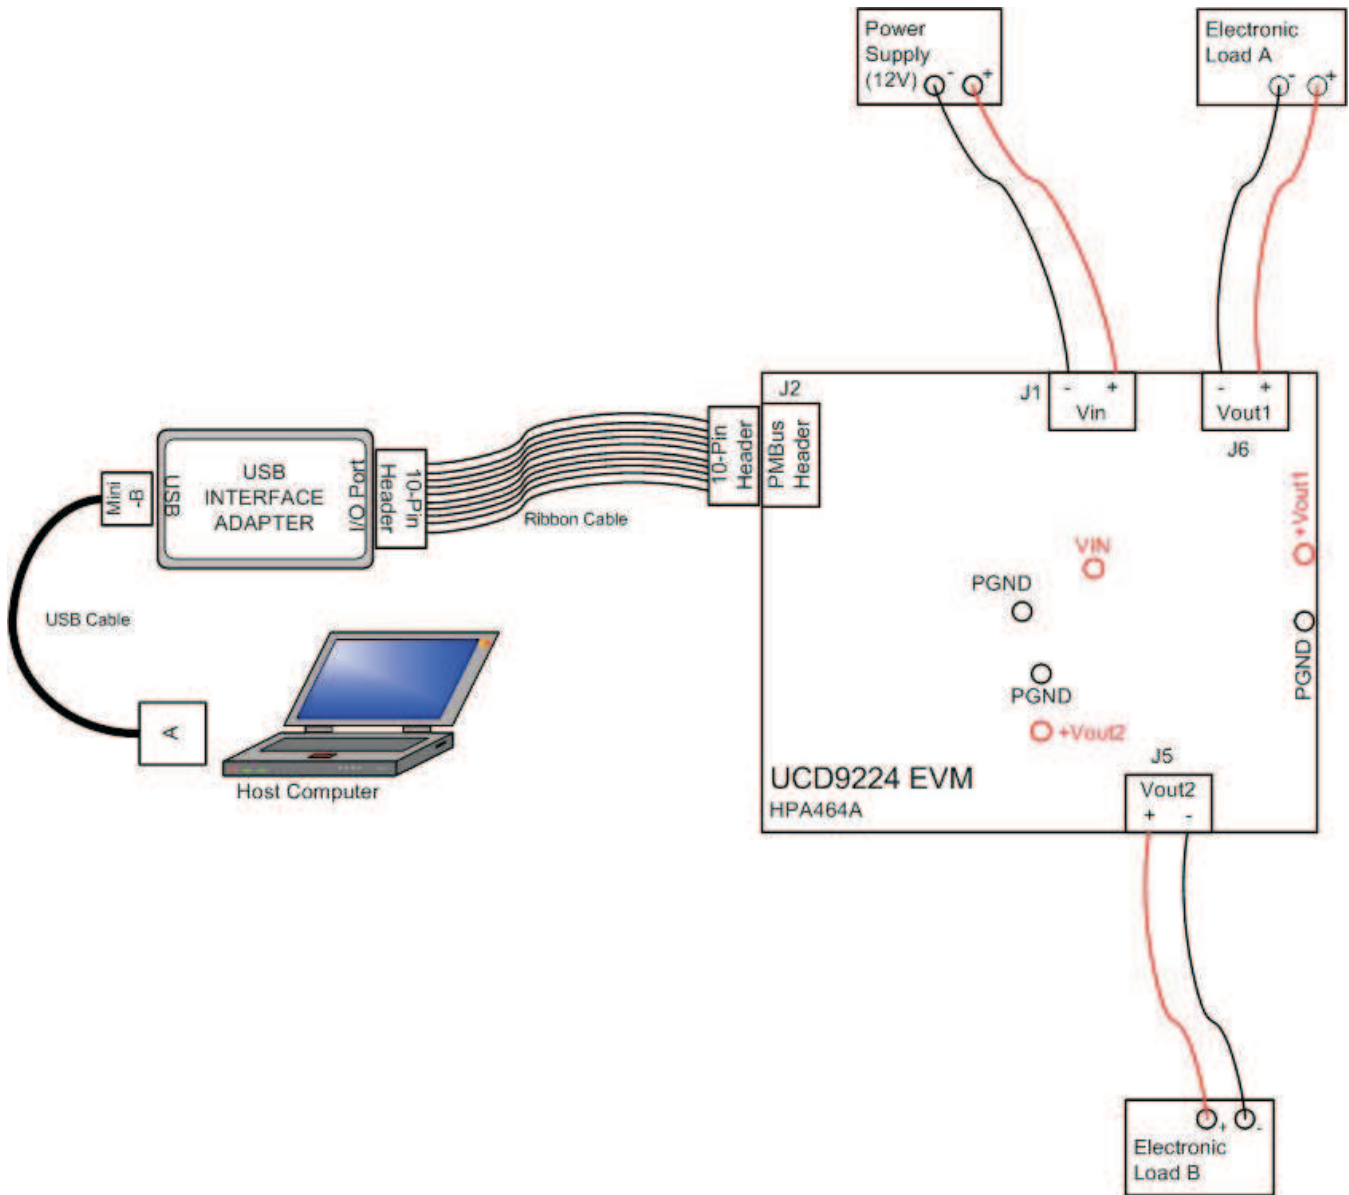

Figure 4. UCD9224EVM-464 Recommended Test Set Up
2. Attach supply connection leads (AWG 20 minimum) between the external power supply and the input voltage connector (J1) on the EVM following the polarity settings shown in the Recommended Test Setup (Figure 4).
4. Attach leads (AWG 16 minimum) between the Electronic Load A inputs and the target EVM's V_{OUT1} (J6) connector following the polarity settings shown in the Recommended Test Setup (Figure 4).
5. Attach leads (AWG 16 minimum) between the Electronic Load B inputs and the target EVM's V_{OUT2} (J5) connector following the polarity settings shown in the Recommended Test Setup (Figure 4).